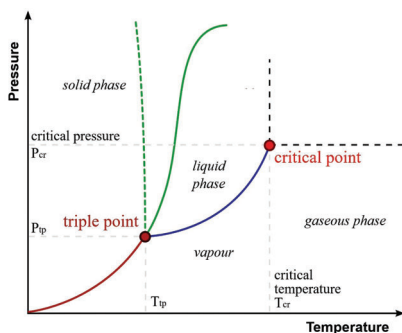

Figure 7: P-T phase diagram (dashed green line refers to anomalous behavior of water) showing a triple point as well as a critical point (adapted from [10]).
It is not so difficult to see that van der Waals' Eq.(2) near the critical point (vapor-liquid, Figure 7) can be recast into:
Besides the *critical point*, more intriguing to me is the *triple point* that appears in the phase diagram through the P - T cross-section at constant volume (Figure 7), where all three phases of solid-liquid-vapor seem to coincide in one singular point. Please note in P - T (at constant V) we distinguish a *triple point* as well as a *critical point*. The diagram suggests that starting from one particular single phase, with one
at constant V , the parameter space in any of Thom's mathematical catastrophes around the triple point opens up smoothly, like unfolding a small envelope with a tiny dual phase area (which makes sense). Subsequently, you can proceed from a single to a dual and then from the dual-phase to the triple phase. But, never – mathematically within the set of the seven catastrophes – you can transit directly from a single phase into a triple point with *bypassing* a dual-phase area. It leads to my simple, delicate and provocative statement for today: *from a mathematical stability dynamics viewpoint singular triple points in a phase diagram do not exist!* An escape route is to broaden each of the two-phase border lines in Figure 7 (red, green, blue) at constant V so as to illustrate the existence of a miscibility/spinodal gap of a dual phase area that terminates at a triple-phase area. However, that would imply in general that the transitions around the triple point for all generic cases become phase transformations of 2nd order, i.e. not all of them would execute phase transitions of 1st order in pure systems, which is hard to believe true.